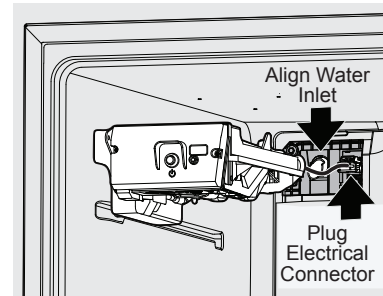

Figure 5
6. Plug the ice maker in the electrical connector on the back wall. Then install the water inlet and electrical cover back in position by inserting the tab on the left side into the slot and push in the right side to make the snap engage. See Figure 5.